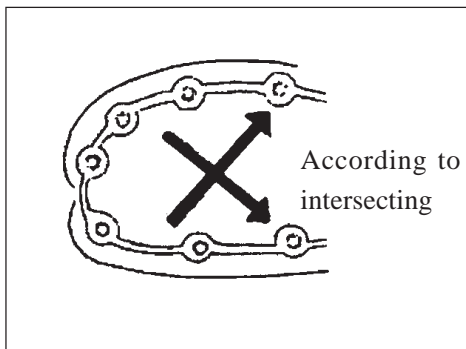

Fig.8.1 Tightening method of screw and nut.
8. Use torque spanner to tighten screw and nut, and as per specified torque to tighten them. It should be tightened in steps from big ones to small ones, from inside to outside and along the direction of diagonal line to intersect. As shown in fig.8.1.